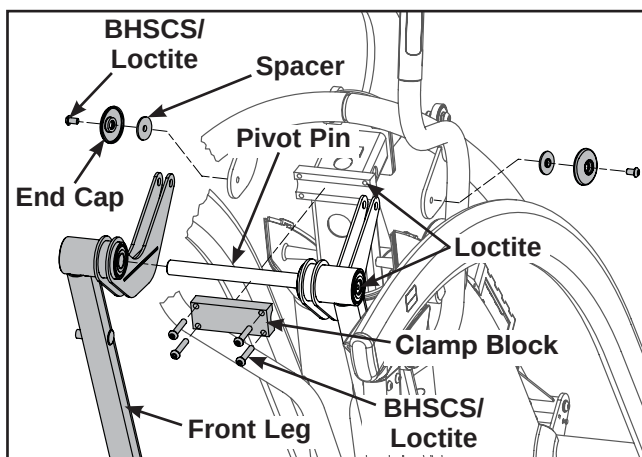

Figure 10
- A. Using a 7/32 Allen wrench, remove the two BHSCS, two end plastic caps and two spacers securing the front legs to frame. See Figure 10.
- B. While holding the front legs, use a 7/32" Allen wrench to remove the four BHSCS and clamp block securing the pivot pin to frame. See Figure 10.
- C. Pull the pivot pin and front legs away from frame. See Figure 10.
- D. Slide the appropriate front leg off of the pivot pin and discard. See Figure 10.
- B. Place a drop of loctite (E) on the six BHSCS (removed in steps 11A and 11B) and another drop inside the shaft into where the BHSCS will be tightened. See Figure 10.
- C. Using 7/32" Allen wrench, reattach the clamp block and four BHSCS/loctite (removed in step 11B) securing the pivot pin to the frame. See Figure 10.
- D. Using 7/32" Allen wrench, reattach the two spacers, two plastic end cap and two BHSCS/loctite (removed in step 11A). See Figure 10.